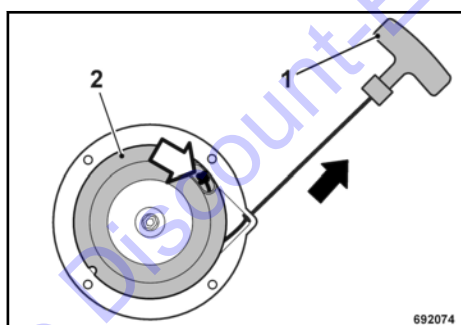

Fig. 56
Pull the starter rope with the starter handle (1) out completely ↪ Fig. 56.